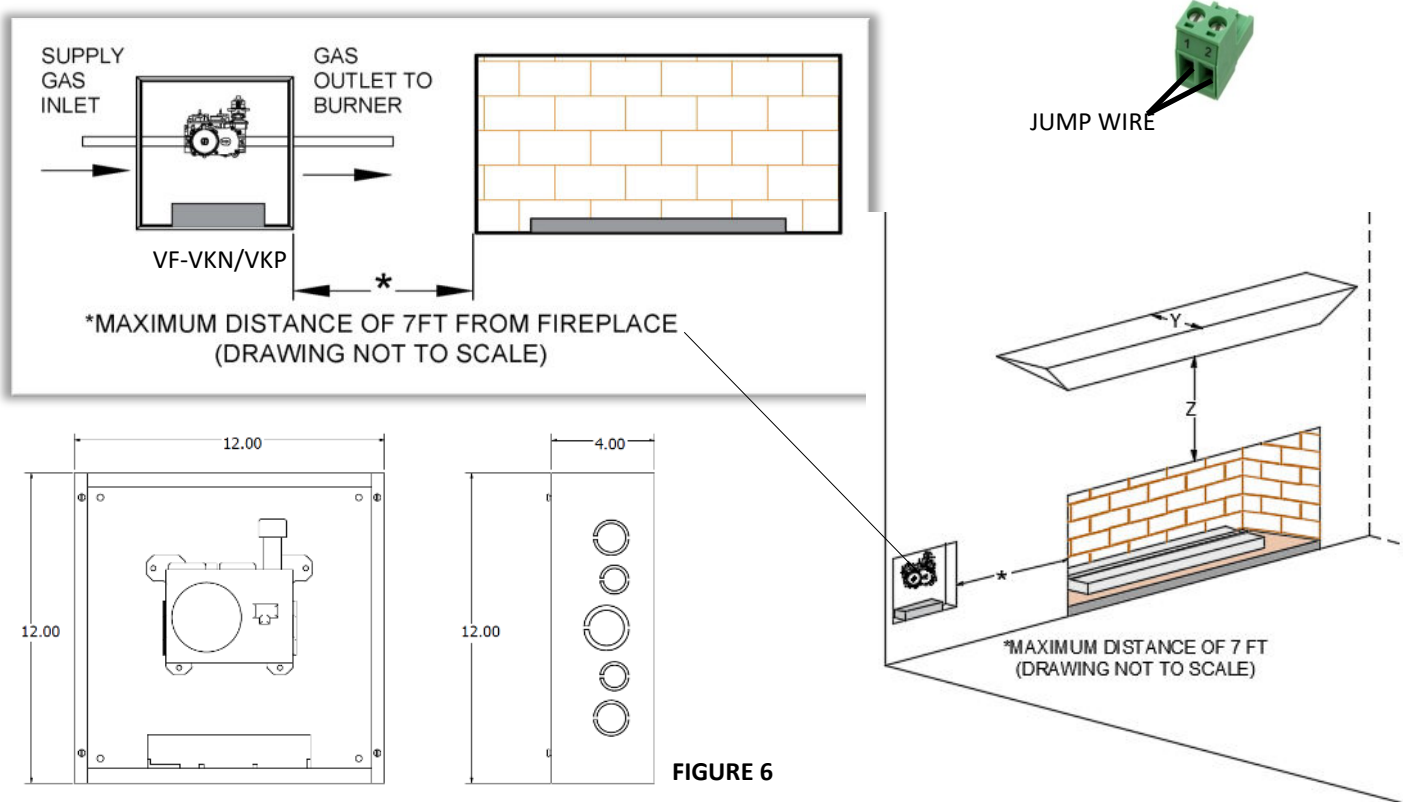

FIGURE 6
1. The valve control box (VF-VKN/VKP) comes with a 110" pilot assembly lead; therefore, the box must be mounted within 7' of the fireplace. Valve controls are contained in a 12" x 12" x 4" NEMA1 enclosure. **(Figure 6).**